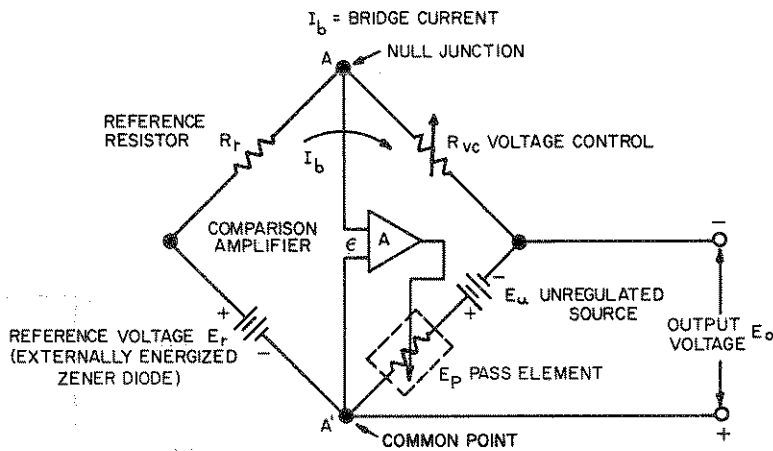

FIG. 3-4 KEPKO POWER SUPPLY AND COMPARISON BRIDGE CIRCUIT
3-9 GENERAL. A few general remarks may be in order to familiarize the user of this equipment with the terminology and basic equations pertaining to remote programming of the Kepco JQE Power Supplies. Electrically, the power supply consists of the unregulated DC source (E_U), the pass element (E_P), the DC error amplifier (A) and a comparison circuit which resembles a four-arm electrical bridge. (Refer to FIG. 3-4). The elements of the bridge are arranged to produce a virtual zero at the amplifier input when the bridge circuit is at balance ($V_{AA'} = 0$). Any tendency for the output voltage to change in relation to the reference voltage (E_r) creates an error signal (e) which, by means of negative feedback and the amplifier, tends to correct the output voltage towards restoration of bridge balance.